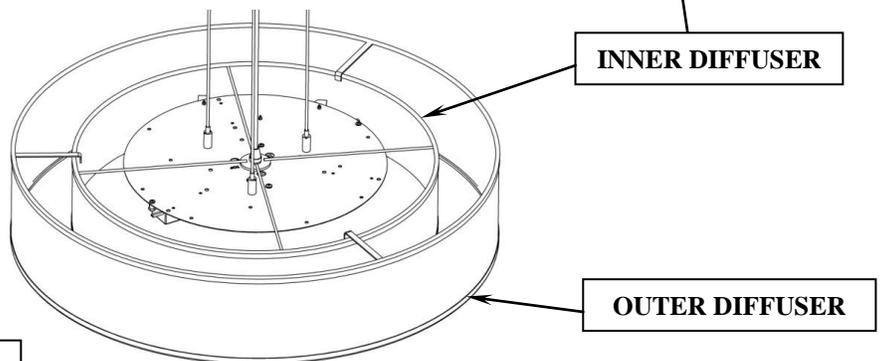

FIG 4
When fixture is mounted, the outer diffuser sits atop the inner diffuser by 3 hooks as shown in **Fig 4**.
B. Install white LENS by inserting it at a slight angle inside the INNER DIFFUSER. Level it out with the shade and lower it down. LENS is supported by INNER DIFFUSER. Complete diffusers and lens installation as shown in **Fig 4 & 5**.